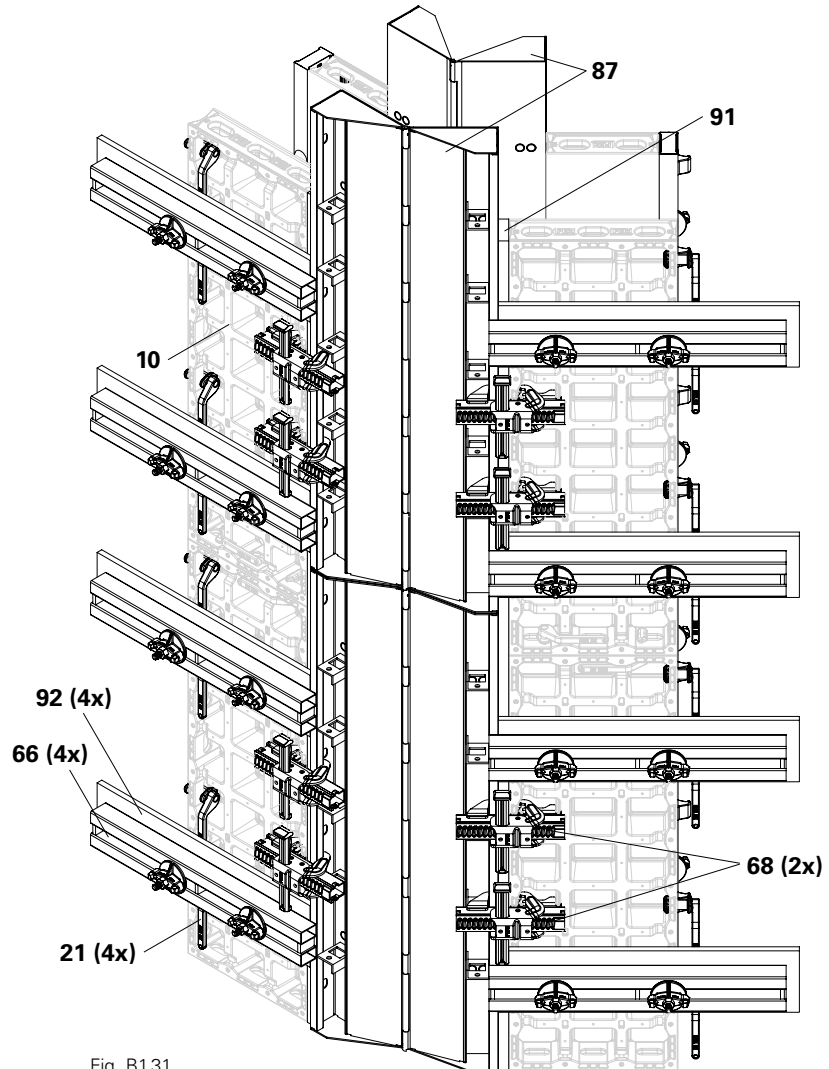

Fig. B1.31
The 18 mm multi-layer plywood sheeting Finply (92) must be installed beneath the DAR compensation walers (66) in order to provide both the DOMINO DGE articulated corner and the DUO DP panel (10) with sufficient support. (Fig. B1.31)